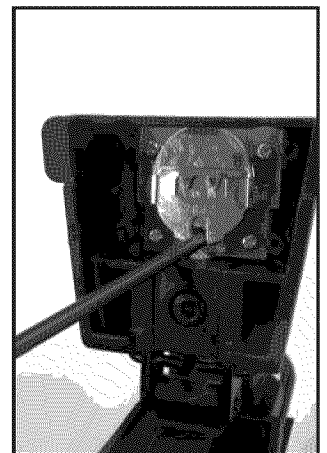

Figure 2
- Use small screwdriver or other blunt instrument to push battery up and out of receptacle. (See Figure 2).